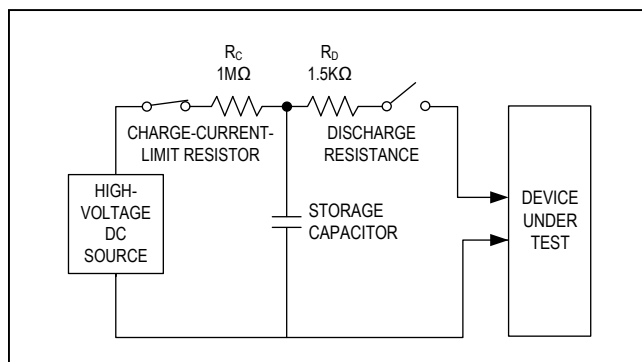

Figure 7. Human Body ESD Test Model
*Figure 7* shows the Human Body Model and *Figure 8* shows the current waveform it generates when discharged into low impedance. This model consists of a  $100\text{pF}$  capacitor charged to the ESD voltage of interest, which is then discharged into the device through a  $1.5\text{k}\Omega$  resistor.